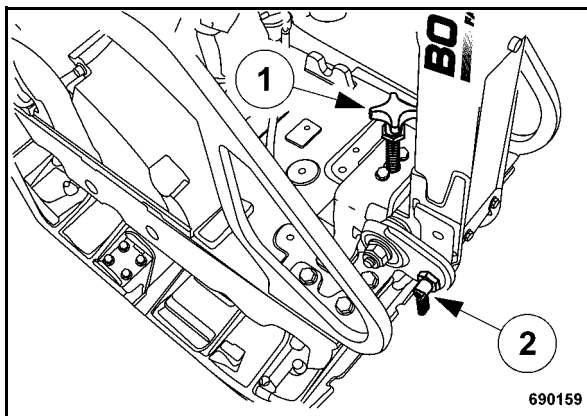

Fig. 13
- Pull out and turn the locking bolt (2) (Fig. 13).
- Adjust the steering rod with the height adjustment (1) to the height of your body.